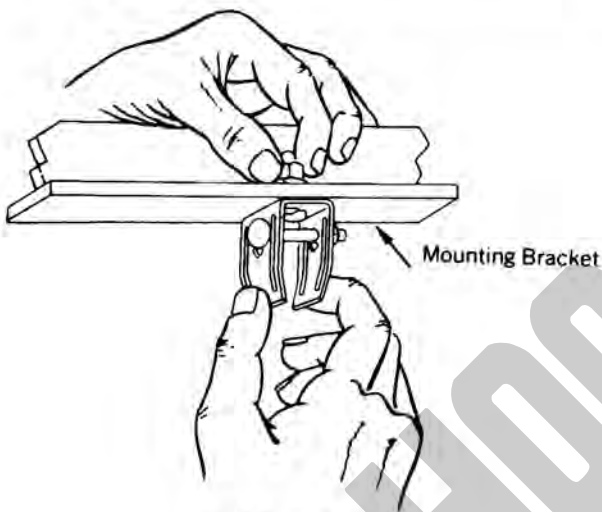

FIGURE 64
1. Fasten the hanger clamps on the hanger brackets and leave the mounting and clamping bolts loose. Refer to Figure 64.